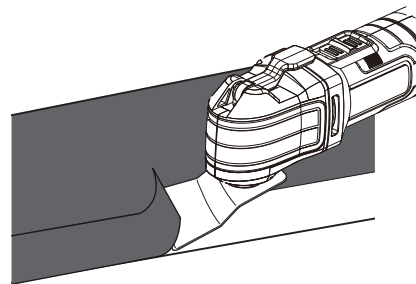

Fig. 16
- > Switch the product on before placing the scraper (12) on the workpiece.
- > Move the product forward at an even speed (Fig. 16).